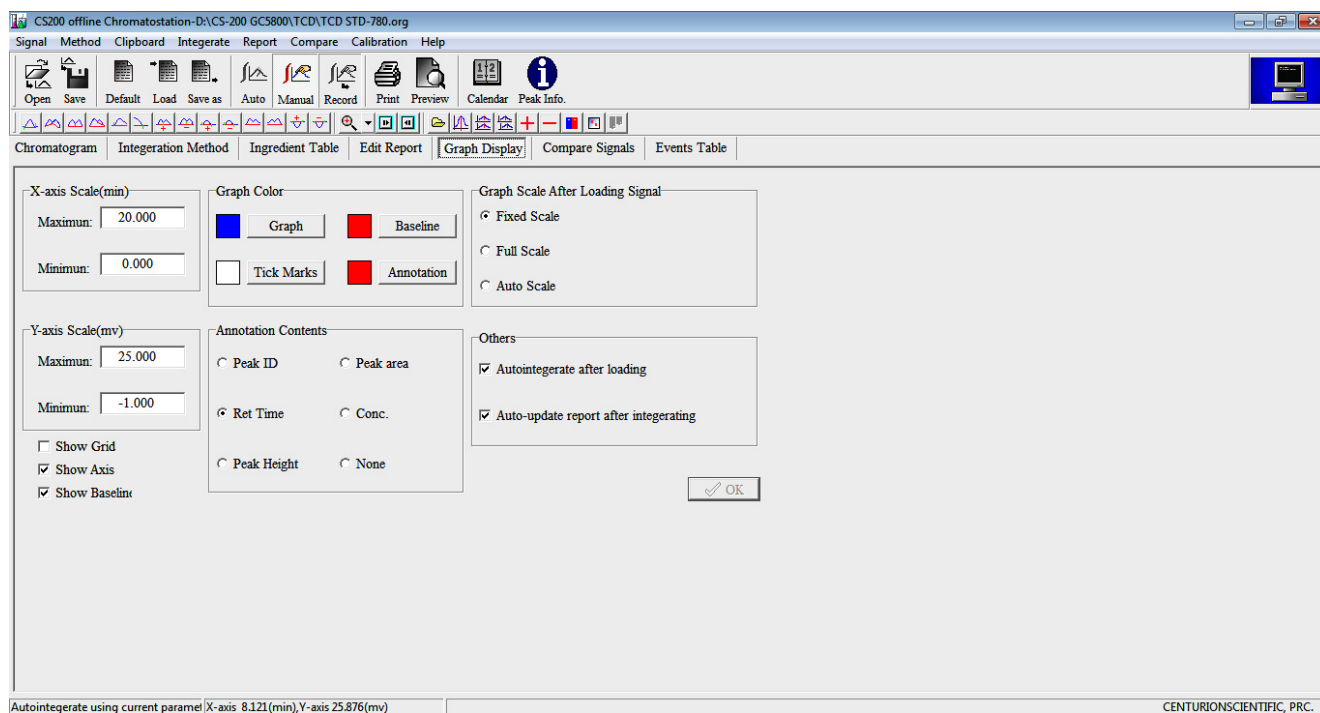

Figure D-500. The Dialog Box for Displaying Configuration
4. The selected Chromatogram will be loaded and displayed as shown in Figure D-500.